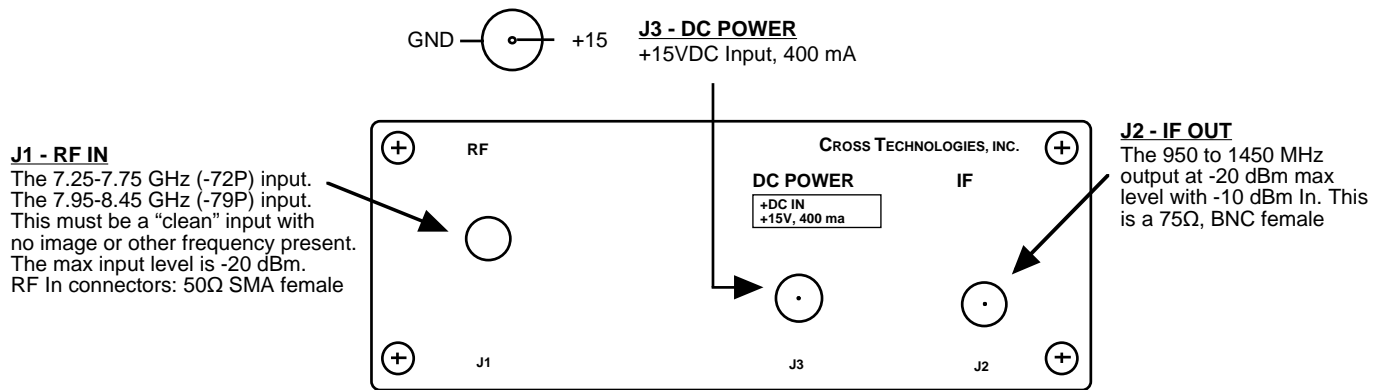

FIGURE 2.3 Model 2009-72P-79P Rear Panel Inputs and Outputs
Figure 2.3 shows the input and output signals to the 2009-72P-79P.
1. For **-P** models, connect one end of the Wall Power Supply to the 2009-72P-79P DC Power In, J3, and the other end to 115 VAC, 60 Hz (Figure 2.3).
2. Connect a -20 dBm, maximum, signal to RF IN, J1 (Figure 2.3).